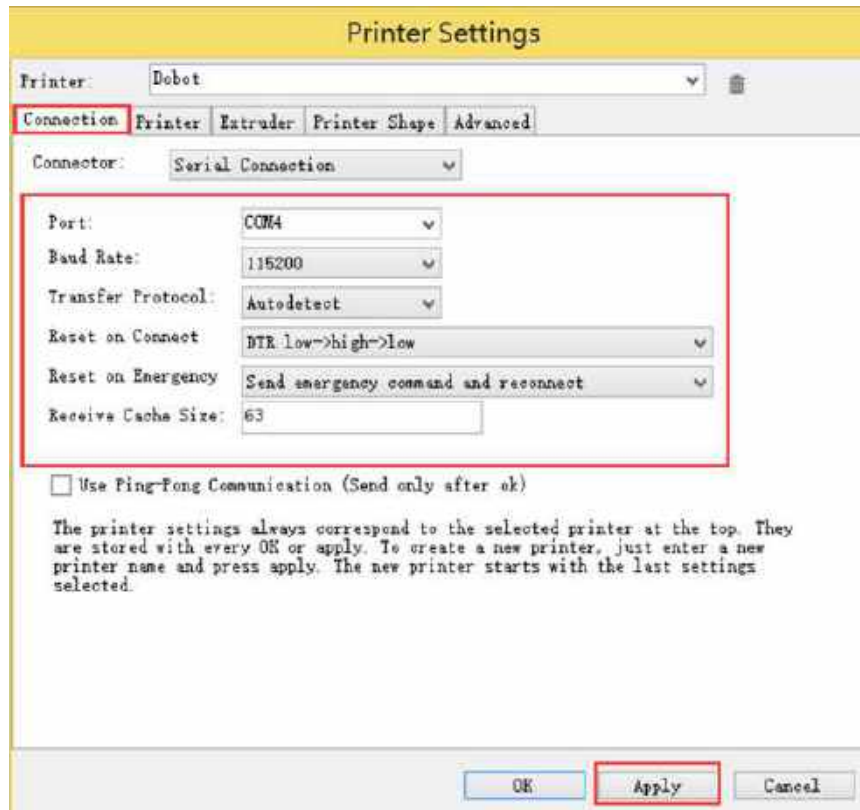

Figure 5.114 Connection setting
2. Set the corresponding parameters on the **Connection** tab as shown in the red box of Figure 5.114. The other parameters are set by default.